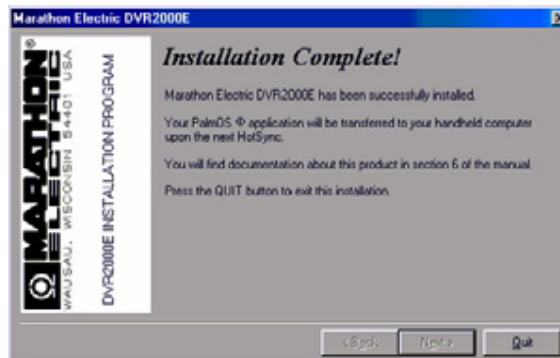

Figure 6-5. Installation Complete Screen
5. Click the check box next to the desired user or click the Select all button to make the software available to all users. Click the Next> button to complete the installation. The Installation Complete Screen (Figure 6-5) appears and confirms that the software was installed successfully. Click the Quit button to exit the setup utility.